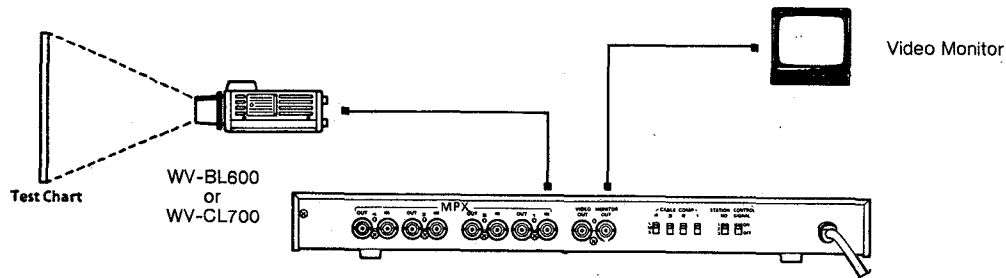

Fig. 3-1
- Set the logarithmic grayscale chart in front of the camera as shown Fig. 3-1.